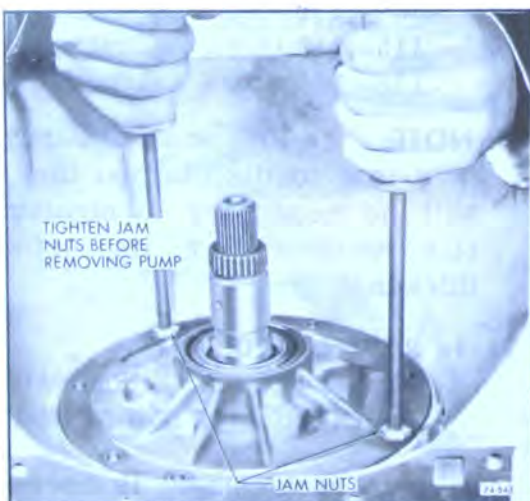

Figure 74-542
3. Install threaded slide Hammers, J-7004, into bolt holes in the pump body, tighten jam nuts and remove pump assembly from case. See Figure 74-542.